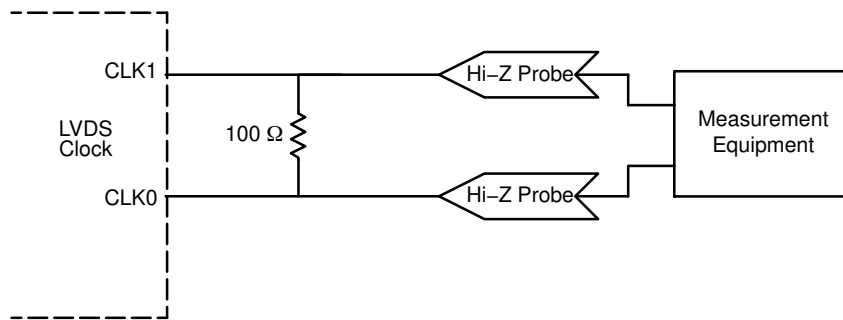

Figure 9. LVDS Parameter Measurement
- LVDS outputs require  $100\ \Omega$  receiver termination resistor between differential pair. See Figure 9.